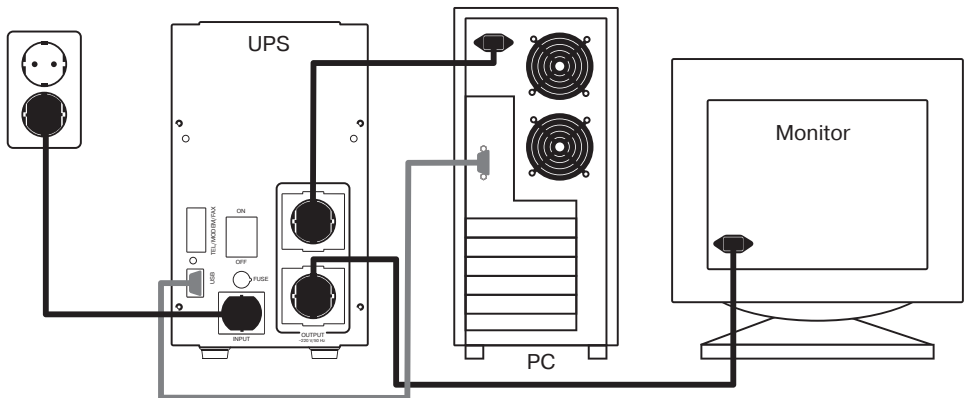

Fig. 3. UPS connection diagram
- Connect the power cable of the computer equipment to one of the UPS output sockets ⑩, and the monitor power cable – to the other UPS output socket (see connection diagram in Fig. 3). Then connect the supplied power cable to the UPS input socket ⑨, and put its plug into a mains outlet.
- Connect the USB interface cable to the corresponding socket ⑪ and to an available PC USB port (connection is optional).